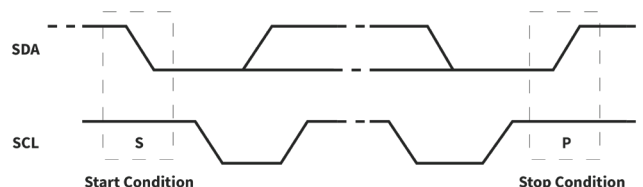

Figure 7.3 Definition of Start and Stop Conditions
Both data and clock lines remain high when the bus is not busy. A high-to-low transition of the data line while the clock is high is defined as the start condition (S). A low-to-high transition of the data line while the clock is high is defined as the stop condition (P) (see Figure 7.3).